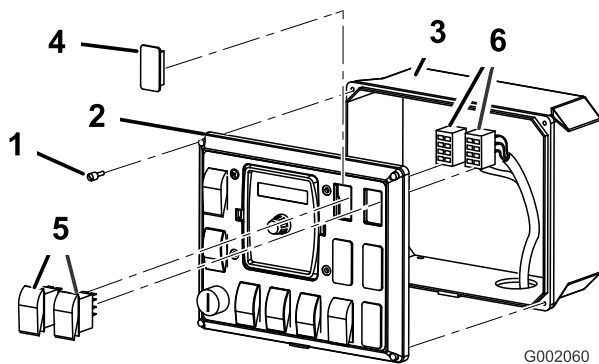

Figure 31
1. Loosen the 4 screws that secure the front panel to the control box (Figure 31).
2. Remove the front panel to expose the inside of the control box (Figure 31).
3. Lift and remove the 2 plugs from the spray control panel on the vehicle, and install the 2 rocker switches provided in their place (Figure 31).